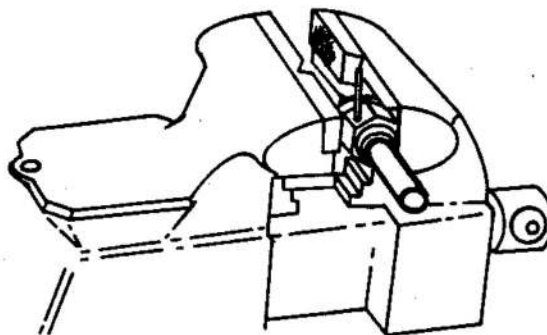

Fig.2 Locating the new retaining wire
- (3) Using a pair of pliers, grip the exposed retaining wire and pull out from the groove. Remove the remainder of the nut from the nipple.
- (4) Clean off the nipple and check that the wire groove and sealing areas of the nipple are still suitable for re-use. If so, place a new nut in the vice with the wire hole at the top, place the nipple through the nut and push a suitable length of retaining wire into the hole (fig. 2).